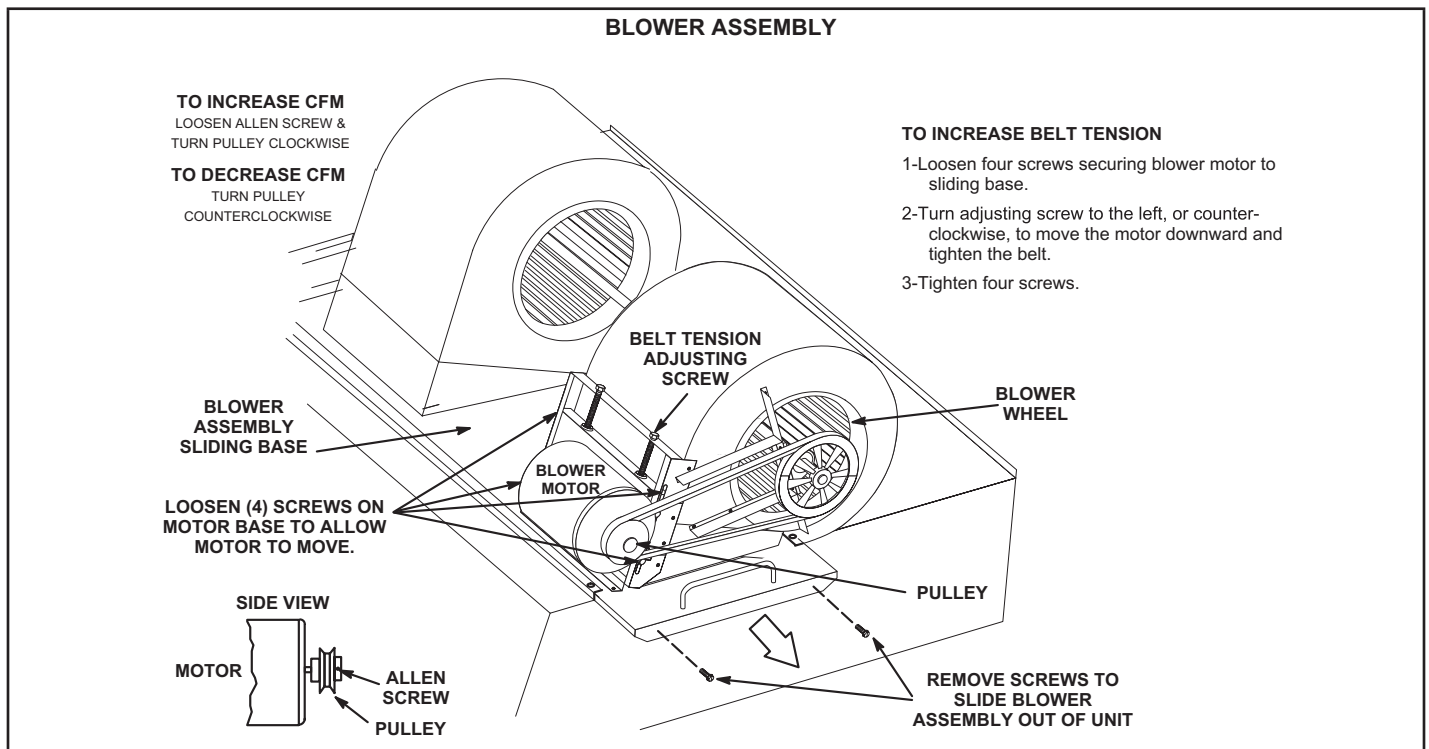

FIGURE 7
The blower compartment is located between the evaporator coil and the compressor / control section on the opposite side of the condenser coil. The blower assembly is accessed by removing the screws on either side of the sliding base. The base pulls out as shown in figure 7.
The blower assembly is secured to a sliding base which allows the entire assembly to be pulled out of the unit. See figure 7.
- 5 - The blower RPM can be adjusted at the motor pulley. Loosen Allen screw and turn adjustable pulley clockwise to increase CFM. Turn counterclockwise to decrease CFM. See figure 7. Tighten Allen screw after adjustment. Do not exceed minimum and maximum number of pulley turns as shown in table 3.
- 1 - Loosen four screws securing blower motor to sliding base. See figure 7.